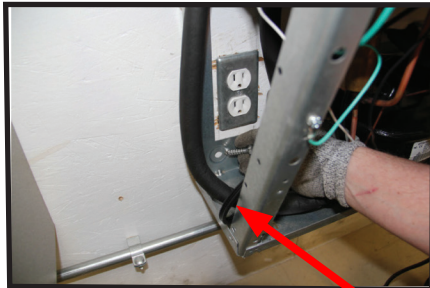

FIG. 6
- 15) Remove wall mounting plate from Bottle Filler (See Fig. 8). Place wall mounting plate against wall on top of basin. Center the wall mounting plate side to side with the basin. Mark the six (6) mounting holes with a pencil (See Fig. 1, Pg. 2). Place tape over wiring harness connection on top of cooler to prevent debris from falling into Connection(See Fig. 6, Pg. 7).